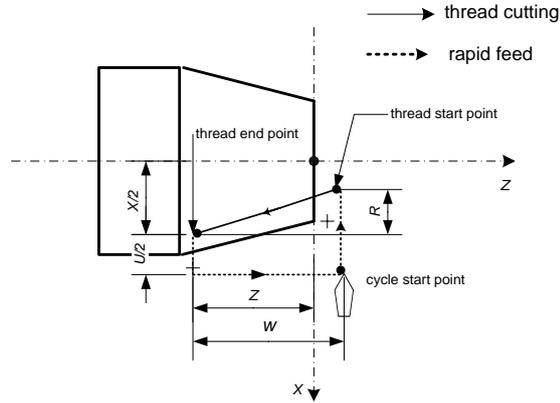

Figure II-13 Cutting cycle for taper external thread
- 5 R is radius difference in X direction between thread cutting start point and thread cutting end point, which as shown in Figure II-13. In the X direction, R is negative when cutting start point value is less than cutting end point value, otherwise R is positive. Using R can machine taper thread.